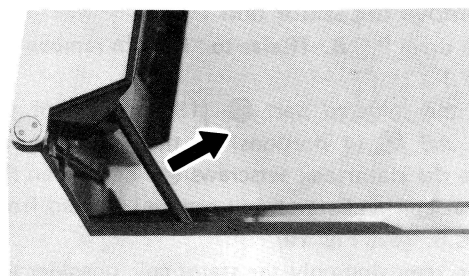

Fig. 6
1. Completely open the upper cabinet, pull the stay toward you and remove it from the damper. (See Fig. 6)